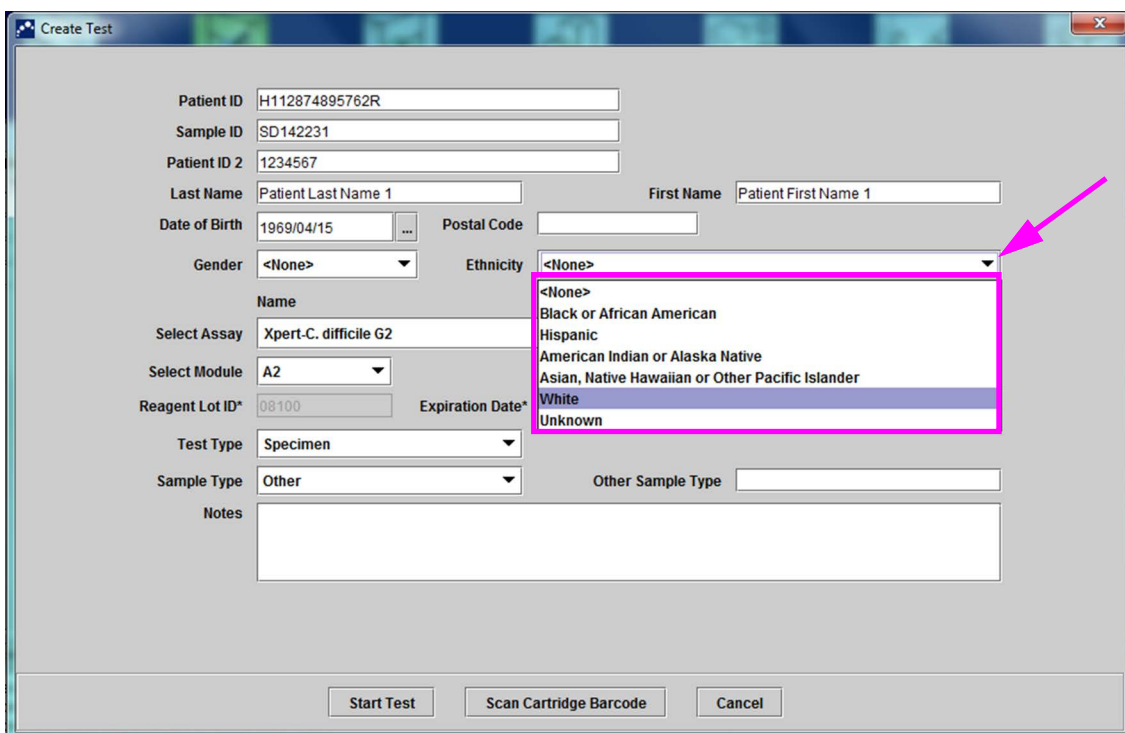

Figure 5-23. Create Test Dialog Box with the Ethnicity Field Shown
- B. **Ethnicity**—Click the drop-down arrow in the **Ethnicity** box and select the appropriate ethnicity from the drop-down menu (see Figure 5-23).